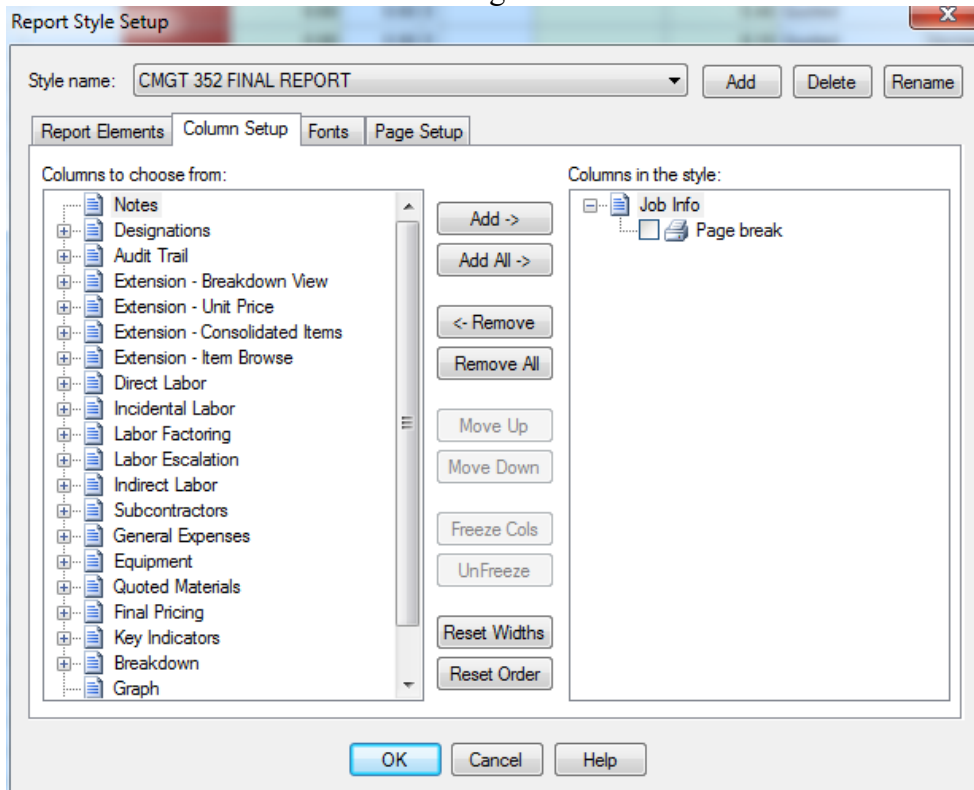

Fig. 5
10. Click on Job Info from the Columns to choose from: list and click the Add -> button. The Job Info screen is now listed in the Columns in the style: list. Be sure that the Page break option under Job info is not selected as shown in Fig. 5.